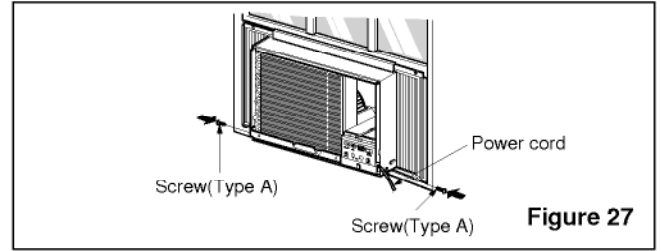

Figure 27
10. Slide the unit into the cabinet.(See Fig. 27)